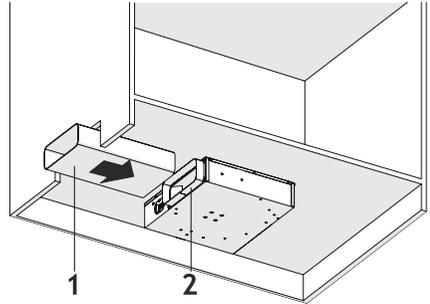
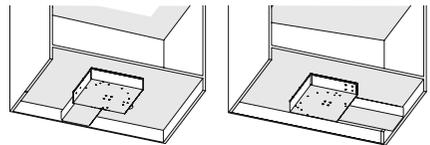

Fig. 25
Fig. 26
10. ➔ Insert the air exhaust pipe on the air exhaust flue on the motor box (Fig. 25).
i You can connect the air discharge connection in 3 different ways. You can select the air discharge plan that suits your kitchen cabinet (Fig. 25 / Fig. 26).